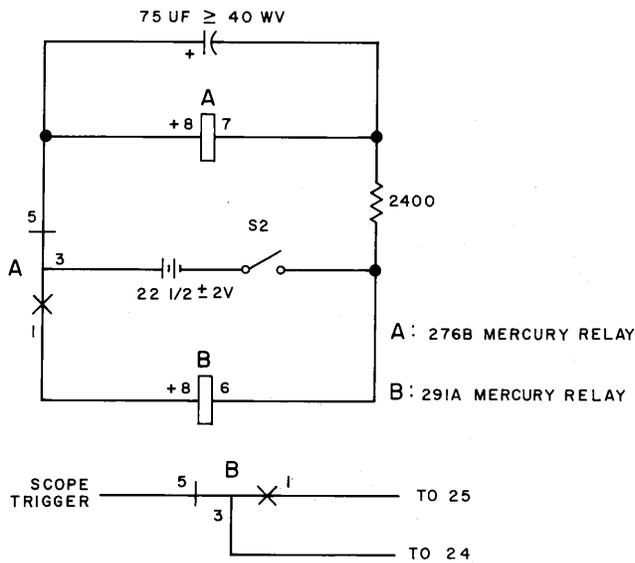

Fig. 14—Pulser Circuit
- (2) Perform the operations in Table E.
**5.09 Fall Time Check:** Connect the equipment as specified in Table F and perform the operations indicated. The pulser circuit is shown in Fig. 14.